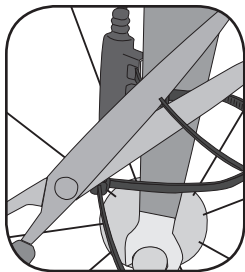

Figure 11- Trim excess nylon tie length
6. Tighten the nylon ties and trim the excess length (Figure 11).